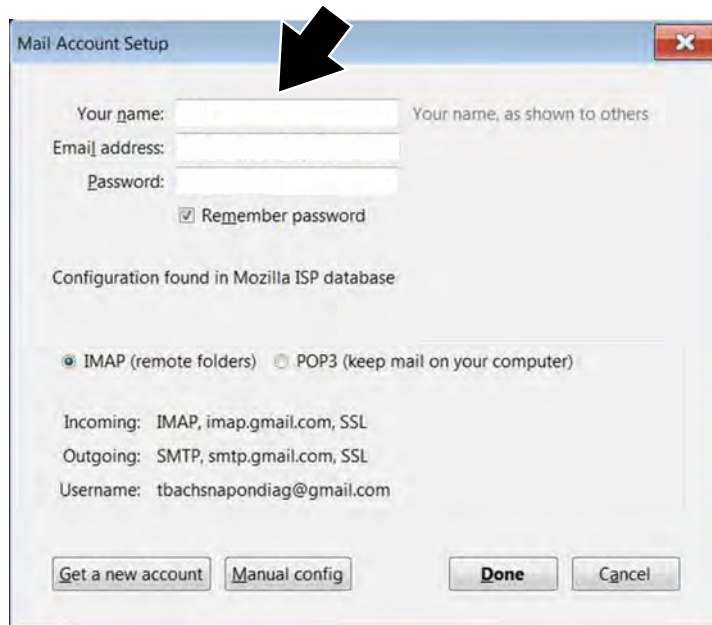

Figure 11-13
- Enter your e-mail information as required (Figure 11-13).